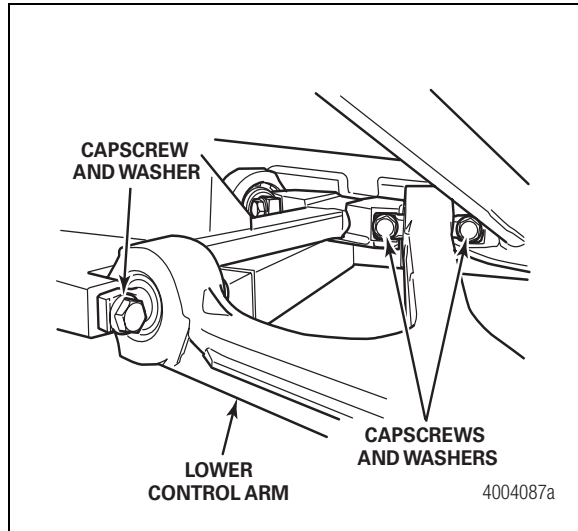

Figure 5.9
- Remove the four capscrews and washers that secure the lower control arm to the suspension subframe. Remove the lower control arm. Figure 5.9.